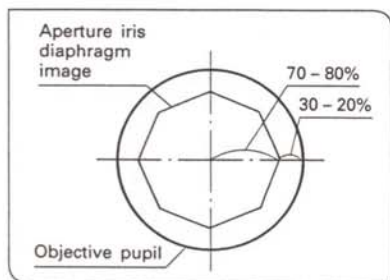

Fig. 36
**Aperture Iris Diaphragm** (Figs. 36,37)
- Since the contrast of microscopic specimens is ordinarily low, setting the condenser aperture iris diaphragm to 70–80% of the N.A. of the objective in use is usually recommended. When necessary, adjust this ratio by removing the eyepiece and peering into the eyepiece sleeve to see the image shown in Fig. 36.